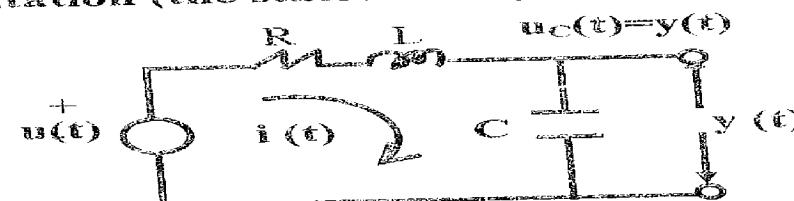

Fig.3a RLC Circuit
3. a-For the RLC circuit in fig.3a